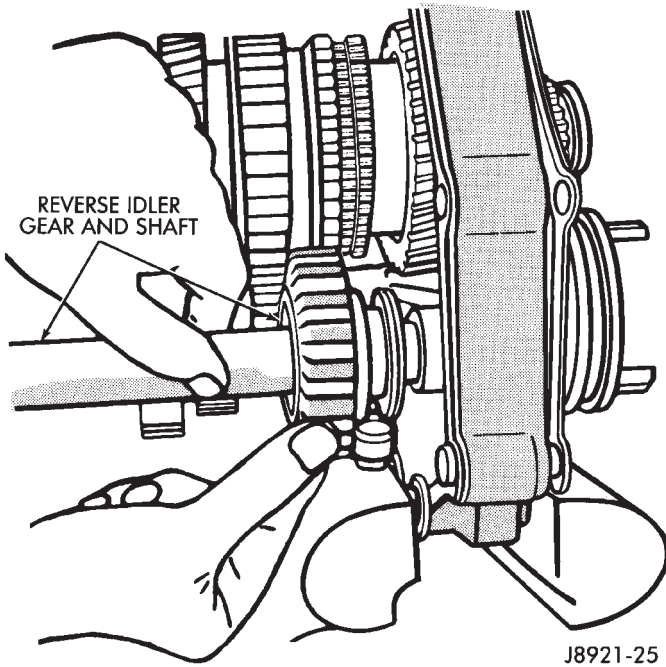

Fig. 17 Removing Reverse Idler Gear And Shaft
(11) Remove reverse idler gear and shaft (Fig. 17).